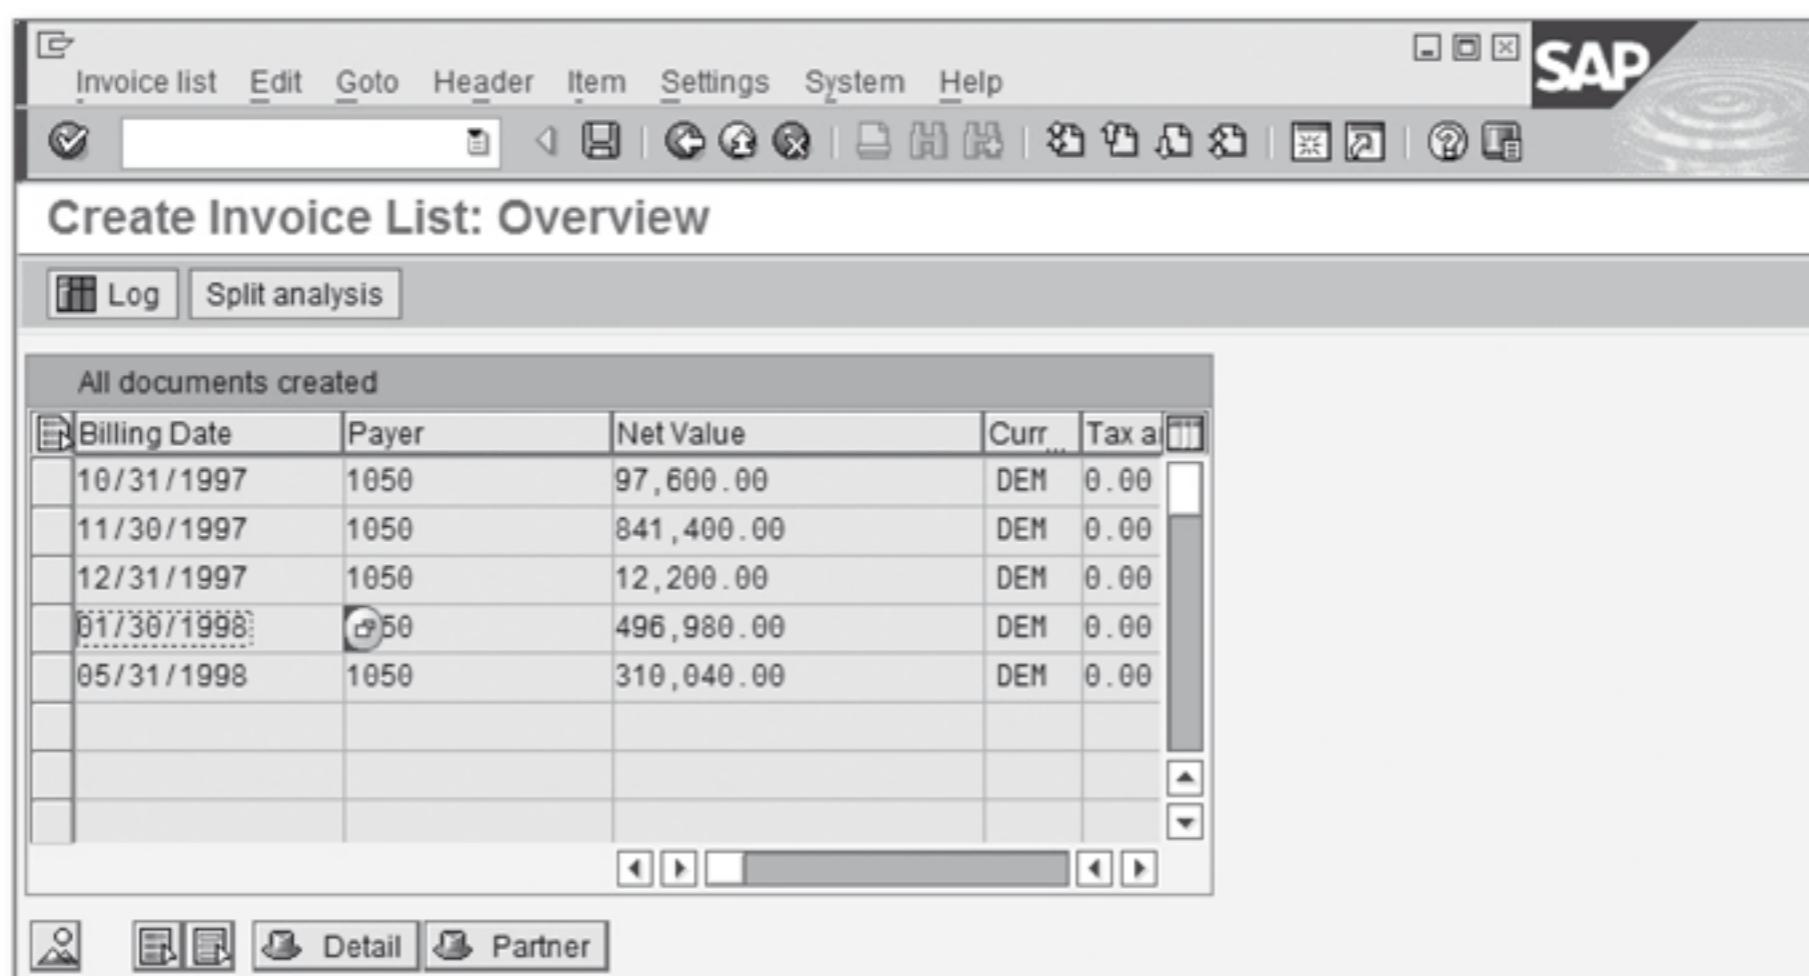

Figure 5.15 Create Invoice List in Online mode – Overview Screen
- ▶ **Create collective billing document in online mode:** This is the same type of process as the background process, but you can preview the results before saving the invoice list, review the error log, and perform split analysis. You can select a range of documents or select all and click the Collective Billing Doc/Online button or use **Shift + F2**. Figure 5.15 shows a review screen. You can perform split analysis, which will review consistency between documents selected and verify whether the invoice list will potentially drop some of the selected documents that didn't make the criteria (i.e., outside of the invoice list